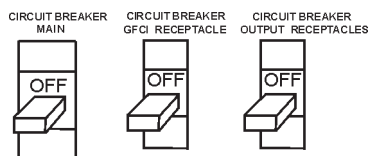

Figure 31. Main, GFCI and Load Circuit Breakers
1. Be sure to disconnect the electrical load and switch the **main, load** and **G.F.C.I.** circuit breakers (Figure 31) to the "OFF" position prior to starting the engine.